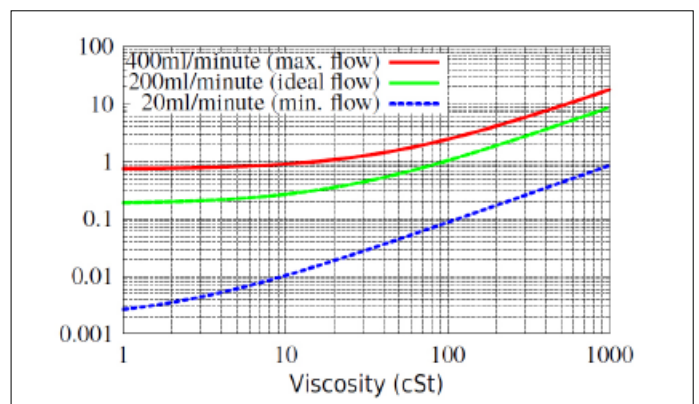

Figure 5.10
- Use the figure 5.10 to look up the pressure drop, across the ICM 4.0 ports, at this flow rate and viscosity. E.g. at 30cSt and 200ml/minute, this is 0.4 bar. The maximum and minimum allowed differential pressures can also be determined using the 400ml/min and 20ml/min lines, respectively.